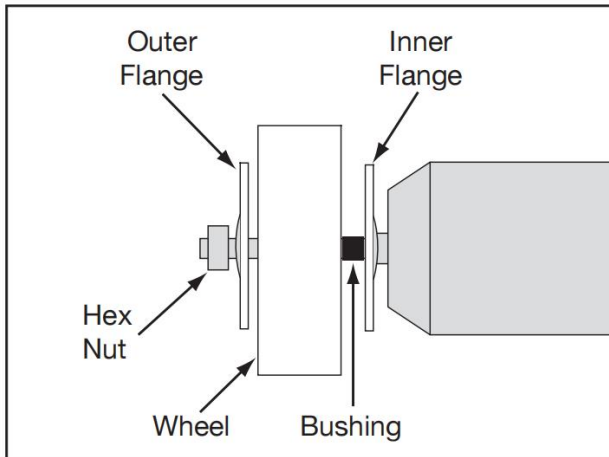

Figure 17. Correct order for installing buffing wheel components.
4. Remove M6-1 hex nut (see **Figure 17**).
5. Remove outer flange, buffing wheel, and bushing from spindle (see **Figure 17**).
6. Install new buffing wheel, bushing, and wheel flange (see **Figure 17**). Then re-install M6-1 hex nut and tighten snugly.